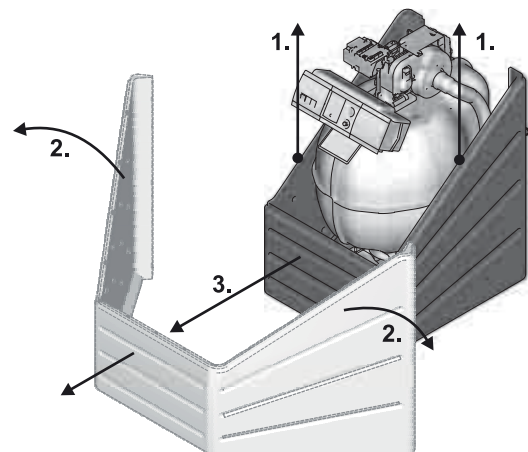

Fig. 9-2 Remove boiler cladding
- Lift and remove the boiler cladding (see fig. 9-2).